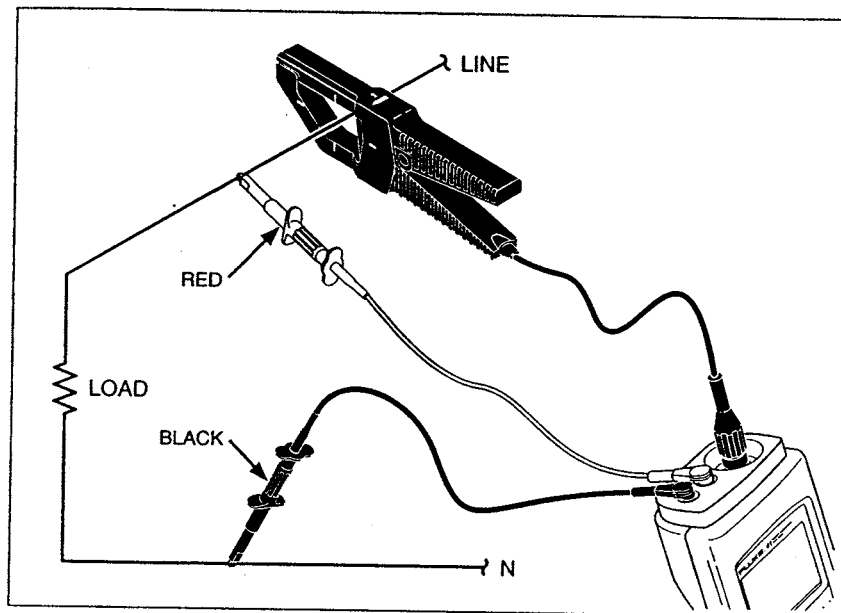

Figure 5. Measurement Connections (1 $\phi$ )
*Figure 5 shows suggested test lead and current probe usage.*